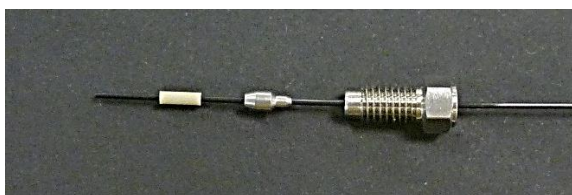

Figure 40. Assembly of PEEK sleeve, nut and ferrule onto 1/32" OD PEEKSil tubing for connection with a 1/16" receiving port.
- Slide the nut, ferrule and PEEK sleeve in the correct direction onto the tube end (as in Figure 40).